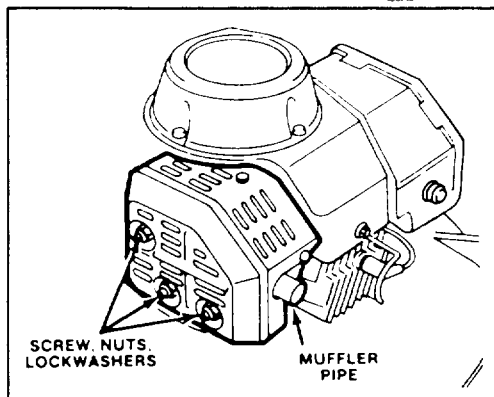

Figure 16
1. Use hard wood scraper and remove carbon from end of muffler pipe (Fig. 16).
2. Remove screw, two nuts and lock washers (Fig. 16). Slide muffler off mounting pins.
5. Install muffler with screw, two nuts and lockwashers (Fig. 16). After cleaning exhaust port make sure muffler gasket is still usable.